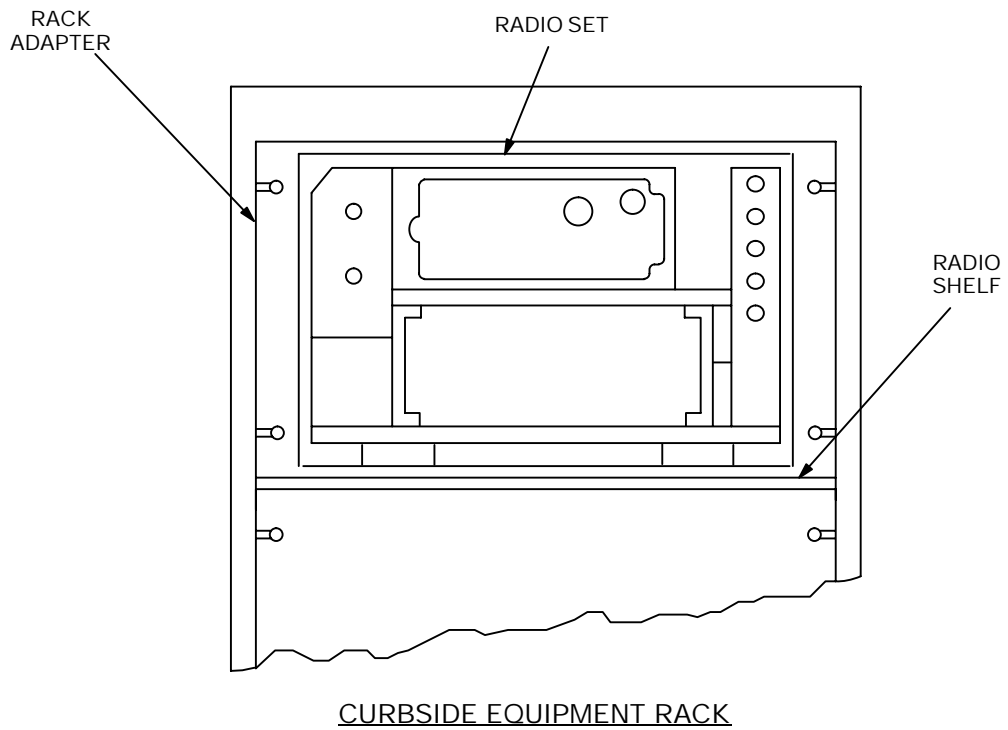

Figure 5- 1 (2). MK and Radio Installation:
5.1 Installation of Antenna AS- 3900/VRC (antenna). See figure 5- 1 (1) for location.